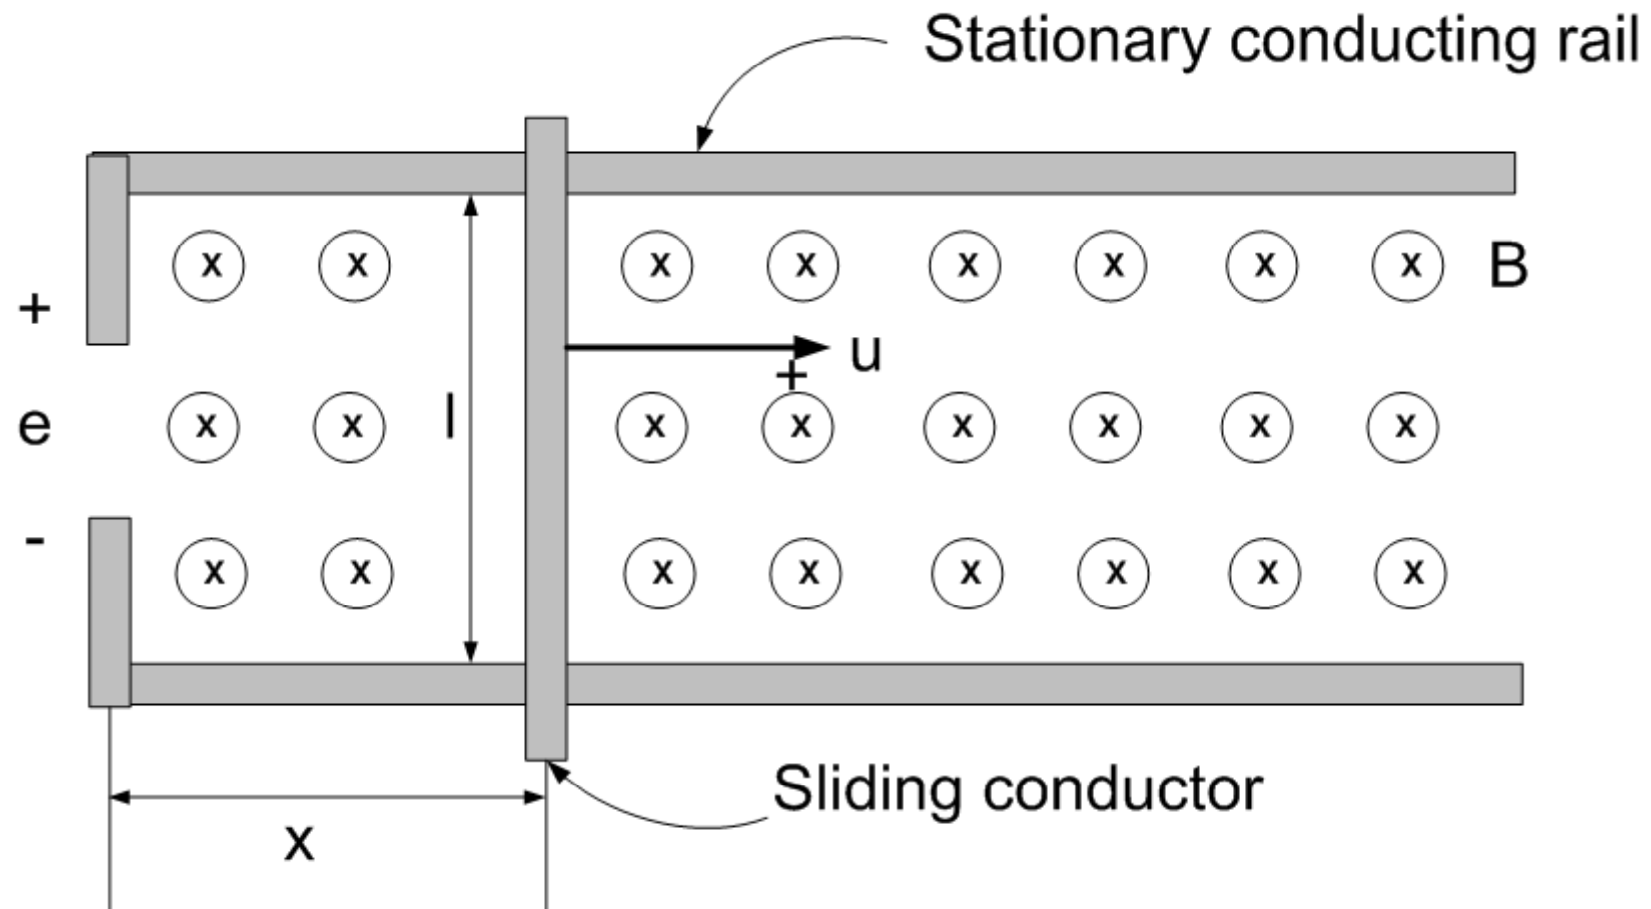

Fig. 3.6 Voltage induced in a conductor moving so as to cut through magnetic flux lines.
- Voltage is also induced in a conductor when it is moving through a magnetic field in a direction such that the magnetic lines of flux are cut as shown in Fig. 3.6.